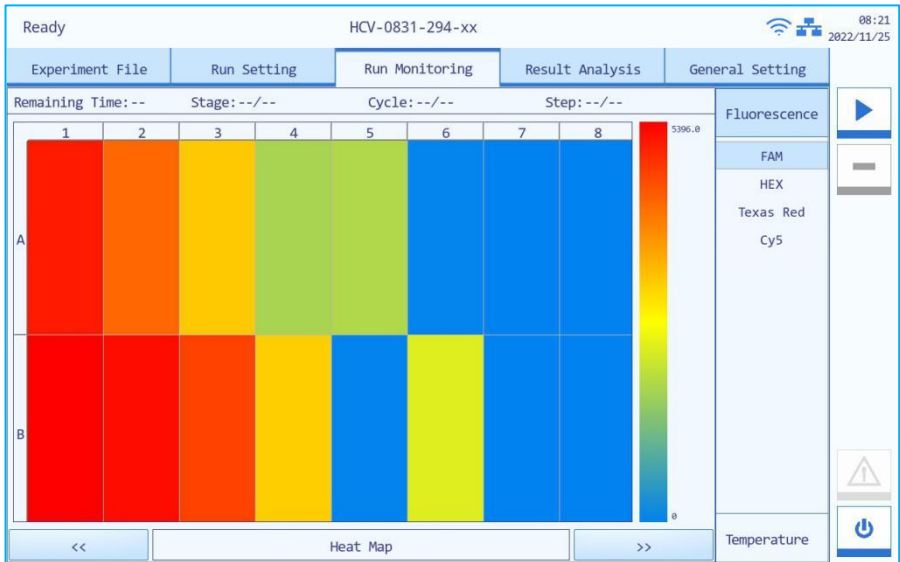

Figure F-3.3 Run Monitoring Diagram - Heat Map
- c. **Heat Map:** Users can press << or >> keys below the run monitoring diagram to monitor the fluorescence **Heat Map** of the current experiment, as shown in figure F-3.3.